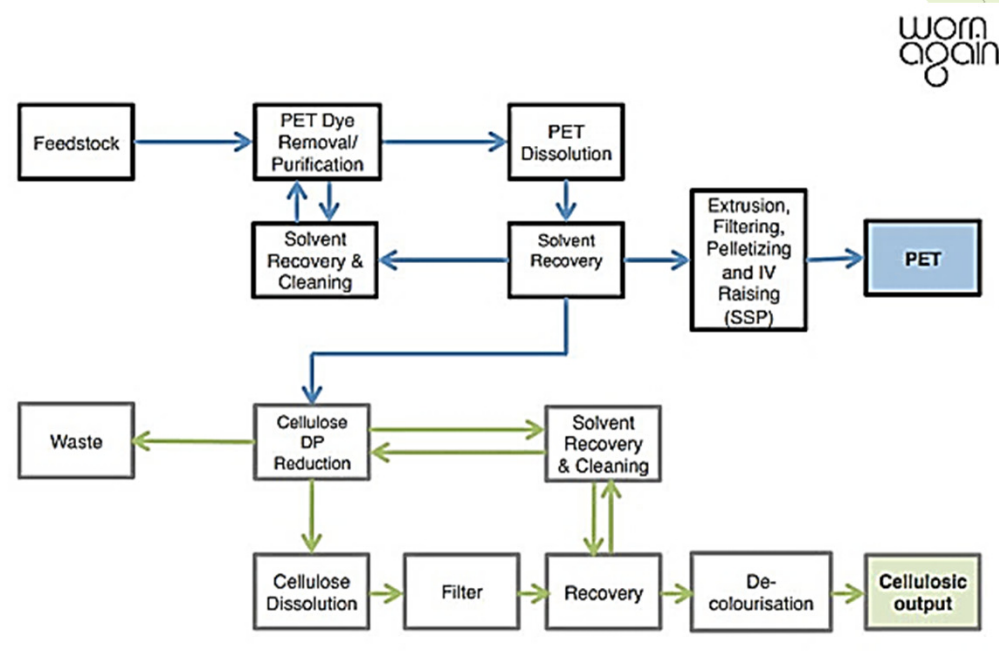

Figure 6. Example of recycling path for a cotton/polyester mix ³
- ▶ Advantages: Process can handle contamination and fiber blends. (Figure 6)³. Indeed, in choosing the right solvent, one fiber can be dissolved and not the other. It's also a solution to remove coatings, dissolving only the fiber or only the coating.